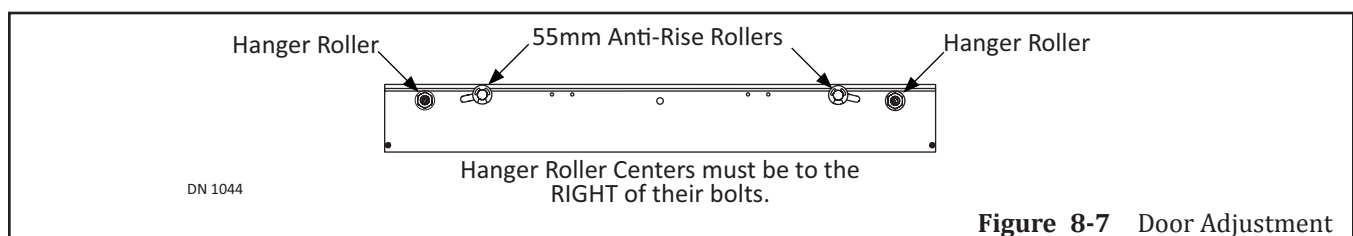

Figure 8-7 Door Adjustment
1. Loosen (2) Hanger Rollers located next each Anti-Rise Roller. Please see Figure 8-7.